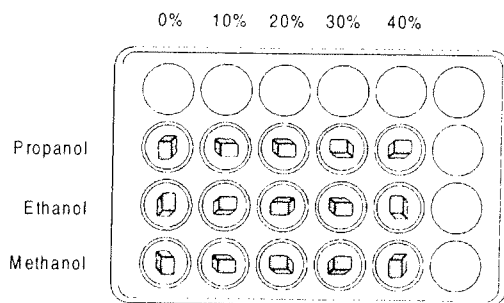

Figure 1
5. Prepare five ethanol solutions. To do so, repeat Step 3, substituting ethanol for methanol. Place each solution in the second row of wells. See Figure 1.
6. Prepare five 1-propanol solutions. To do so, clean your pipette and repeat Step 3, substituting 1-propanol for methanol. Place each solution in the third row of wells. See Figure 1.
9. Set the timer to 10 minutes and begin timing. Use forceps to place a piece of beet into each of 15 wells, as shown in Figure 1. Stir the beet in the alcohol solution once every minute with a toothpick. Be careful not to puncture or damage the beet.